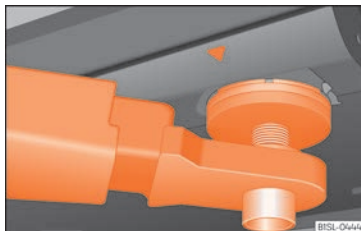
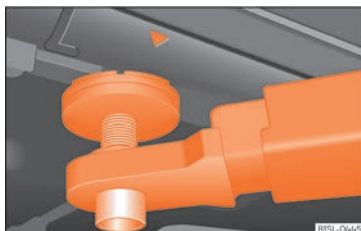

Fig. 283 Front jacking points for raising vehicle with lifting platform or jack
Fig. 284 Rear jacking points for raising vehicle with lifting platform or jack
Always use the jacking points indicated in the figures »» Fig. 283 and »» Fig. 284 when raising the vehicle. If the vehicle is not lifted at these points, it could be seriously damaged »» ⚠ or lead to serious injury »» ⚠.
- Only use the jacking points indicated in the figures »» Fig. 283 and »» Fig. 284 when raising the vehicle. If the vehicle is not lifted at the indicated points, it may fall from the platform while the engine or gearbox is being dismantled, for example.